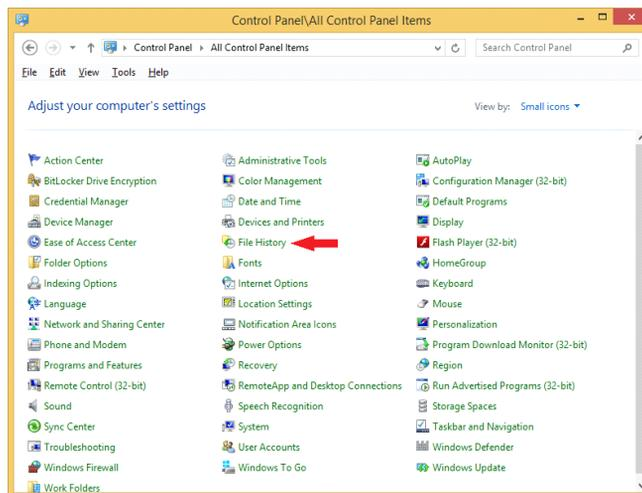

Figure 3 Windows 8.1 File History
- a Click **File History** in the Windows Control Panel (Figure 3).